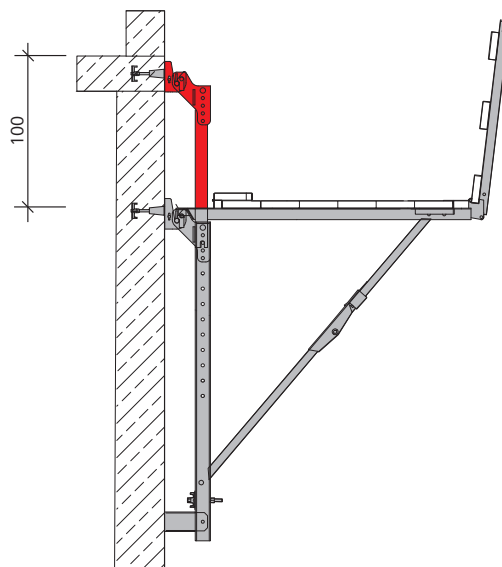

Fig. 14.2
2. Plug in the height adjustment KAB 100 from above and attach the adapter required. Note that twice as many adapters are required when the platform is suspended at a lower position (Fig. 14.2).